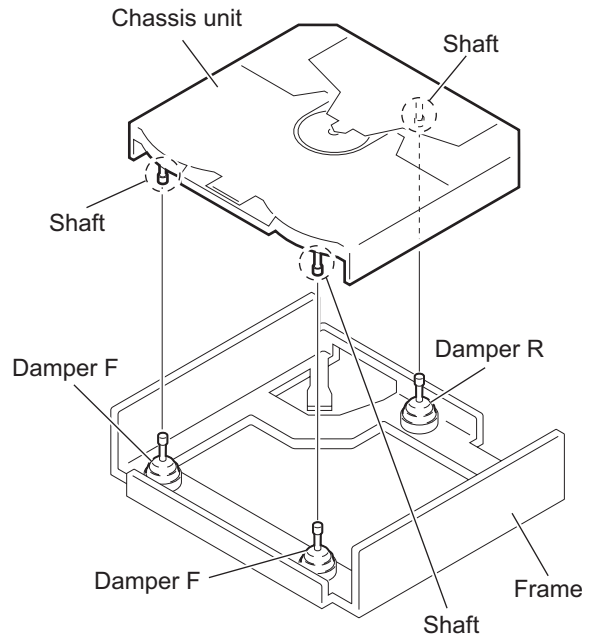

Fig.6
- Remove the chassis unit from the dampers on the frame in an upward direction. (See Fig.6.)
- When reassembling, make sure that the three shafts on the underside of the chassis unit are inserted to the dampers certainly. (See Fig.6.)